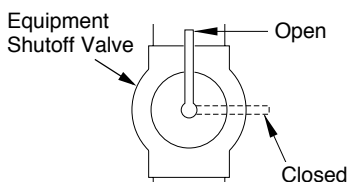

Figure 8 - Equipment Shutoff Valve
1. Close equipment shutoff valve (see Figure 8, page 11).
1. Open equipment shutoff valve (see Figure 8).